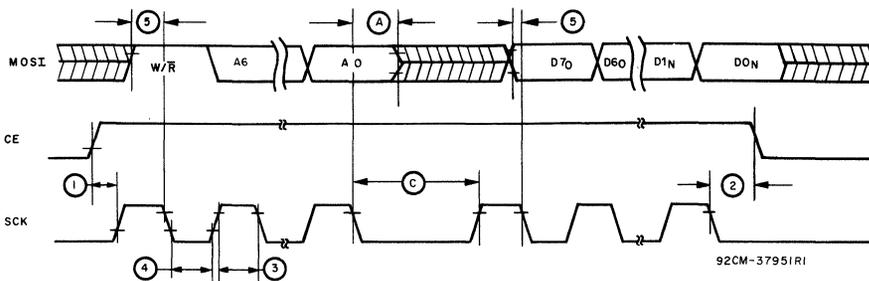

Fig. 14 - WRITE-cycle timing waveforms.
**DYNAMIC ELECTRICAL CHARACTERISTICS-BUS TIMING**  $V_{DD} \pm 10\%$ ,  $V_{SS} = 0$  V dc,  $T_A = -40^\circ\text{C}$  to  $+85^\circ\text{C}$ ,  $C_L = 200$  pF, see Figs. 14 and 15